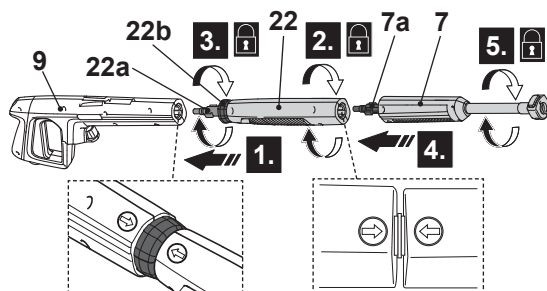

Fig. 11
- Always attach the short extension lance (22) when using the patio brush.
- Align and insert the tongues (22a) of the short extension lance (22) into the grooves of the spray gun (9) connection port. (Fig. 11, step 1).